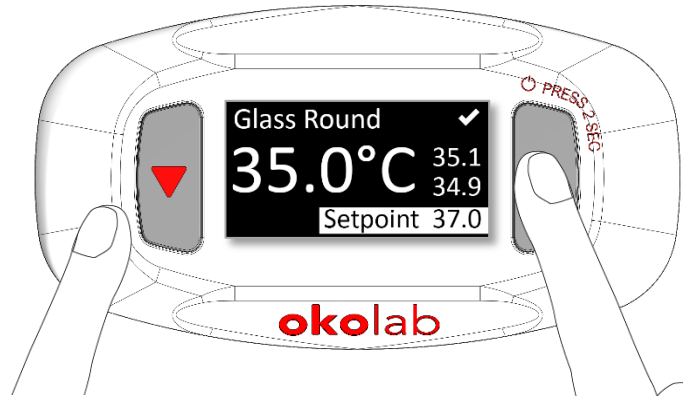

Figure 9. Input of the Setpoint value.
2. Press again the UP or DOWN button to increase (as indicated in Figure 9) or decrease the *Setpoint* value.